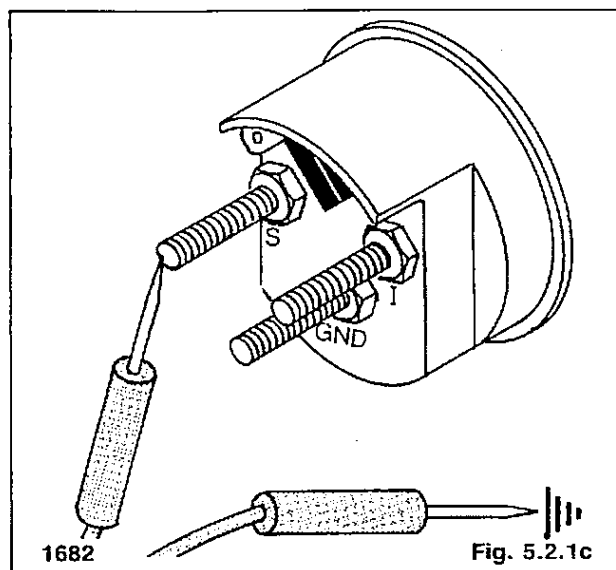

Fig. 5.2.1c
- With the ignition off, connect one ohmmeter lead to the "S" terminal of the fuel gauge (Fig. 5.2.1c). Connect the other ohmmeter lead to a clean ground on the frame.